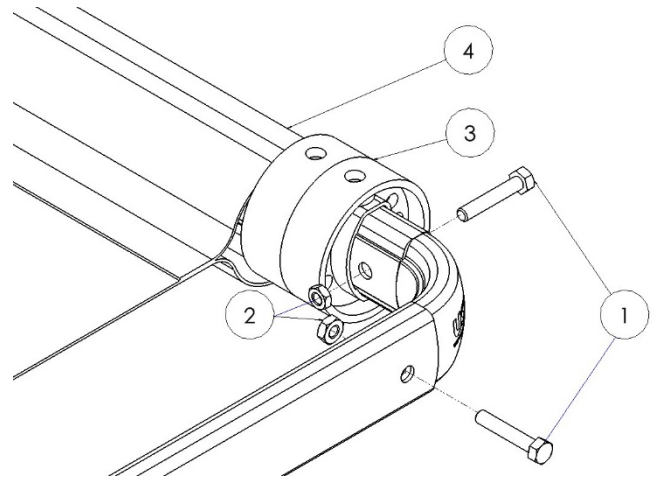

Figure 3.11
Secure the 90 degree corners to the upper arms and cross tube using 5/16" x 1-3/4" hex bolts (1) and 5/16" hex nuts (2) (Figure 3.11). **Note:** In most cases the 90 degree corners will come preinstalled in the upper arm.